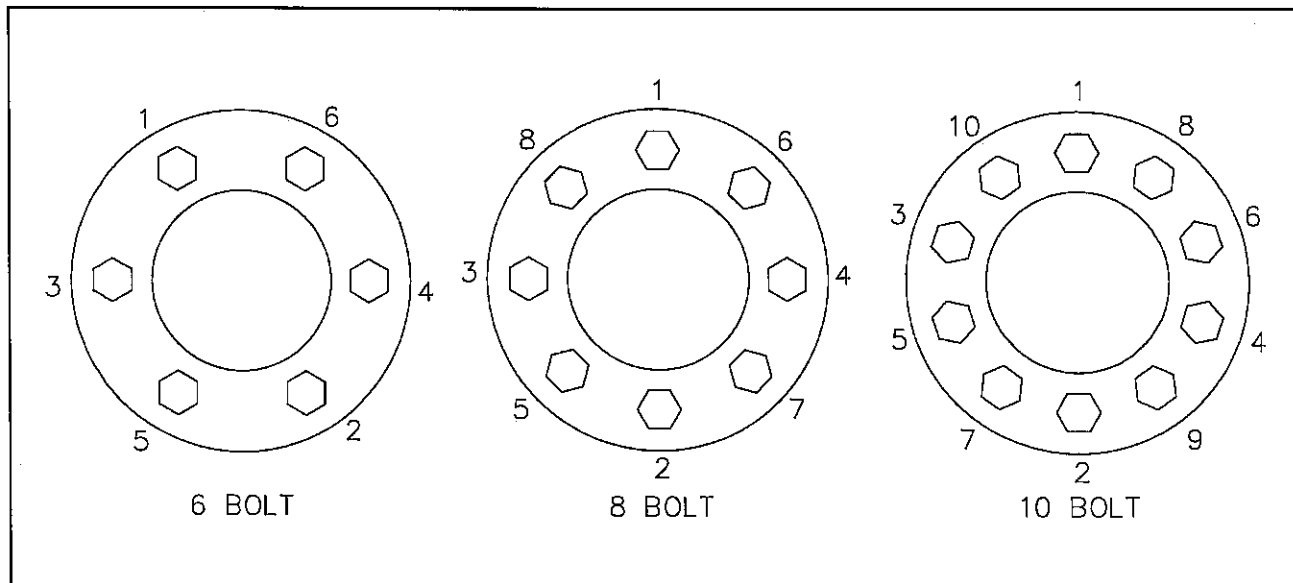

Figure 4-14 Stud Tightening Sequence
c. For ball seat mounted wheels only, install the inner capnuts on the studs and tighten to fifty foot-pounds using the sequence illustrated in Figure 4-14. Make certain that the left-handed threads are installed on the driver side of the vehicle and the right-handed threads are installed on the curbside of the vehicle.
d. Tighten the inner capnuts to full torque of 450 to 500 foot-pounds using the same sequence in Figure 4-14.
(pilot mount) and tighten to 50 foot-pounds using the sequence in Figure 4-14. Then tighten to full torque of 450 to 500 foot-pounds for ball seat and 500 to 550 foot-pounds for pilot mount, using the same sequence.